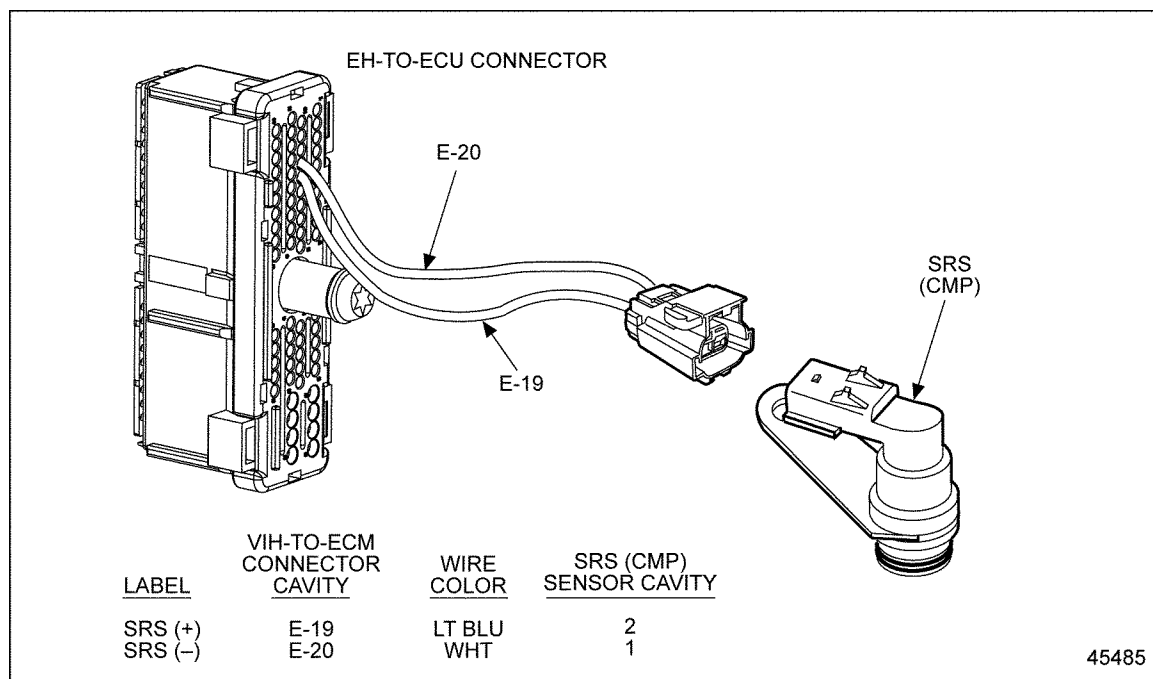

Figure 43-5 Engine Harness Connector to Camshaft Position Sensor
2. Measure resistance between sockets E-20 and E-19 on the Engine Harness connector. See Figure 43-5.